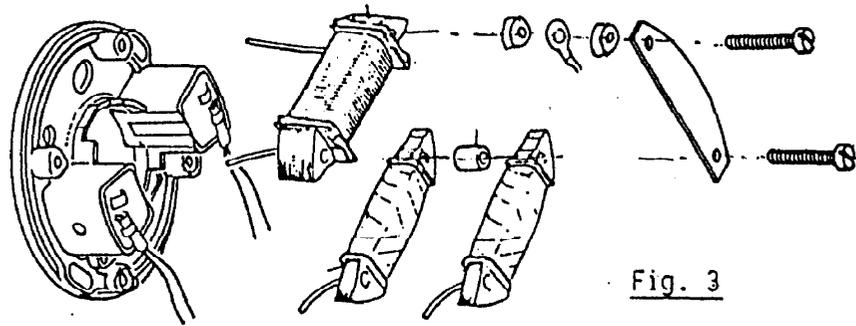

Fig. 3
2) Exchange of coil braces: Fig. 3 on page 5